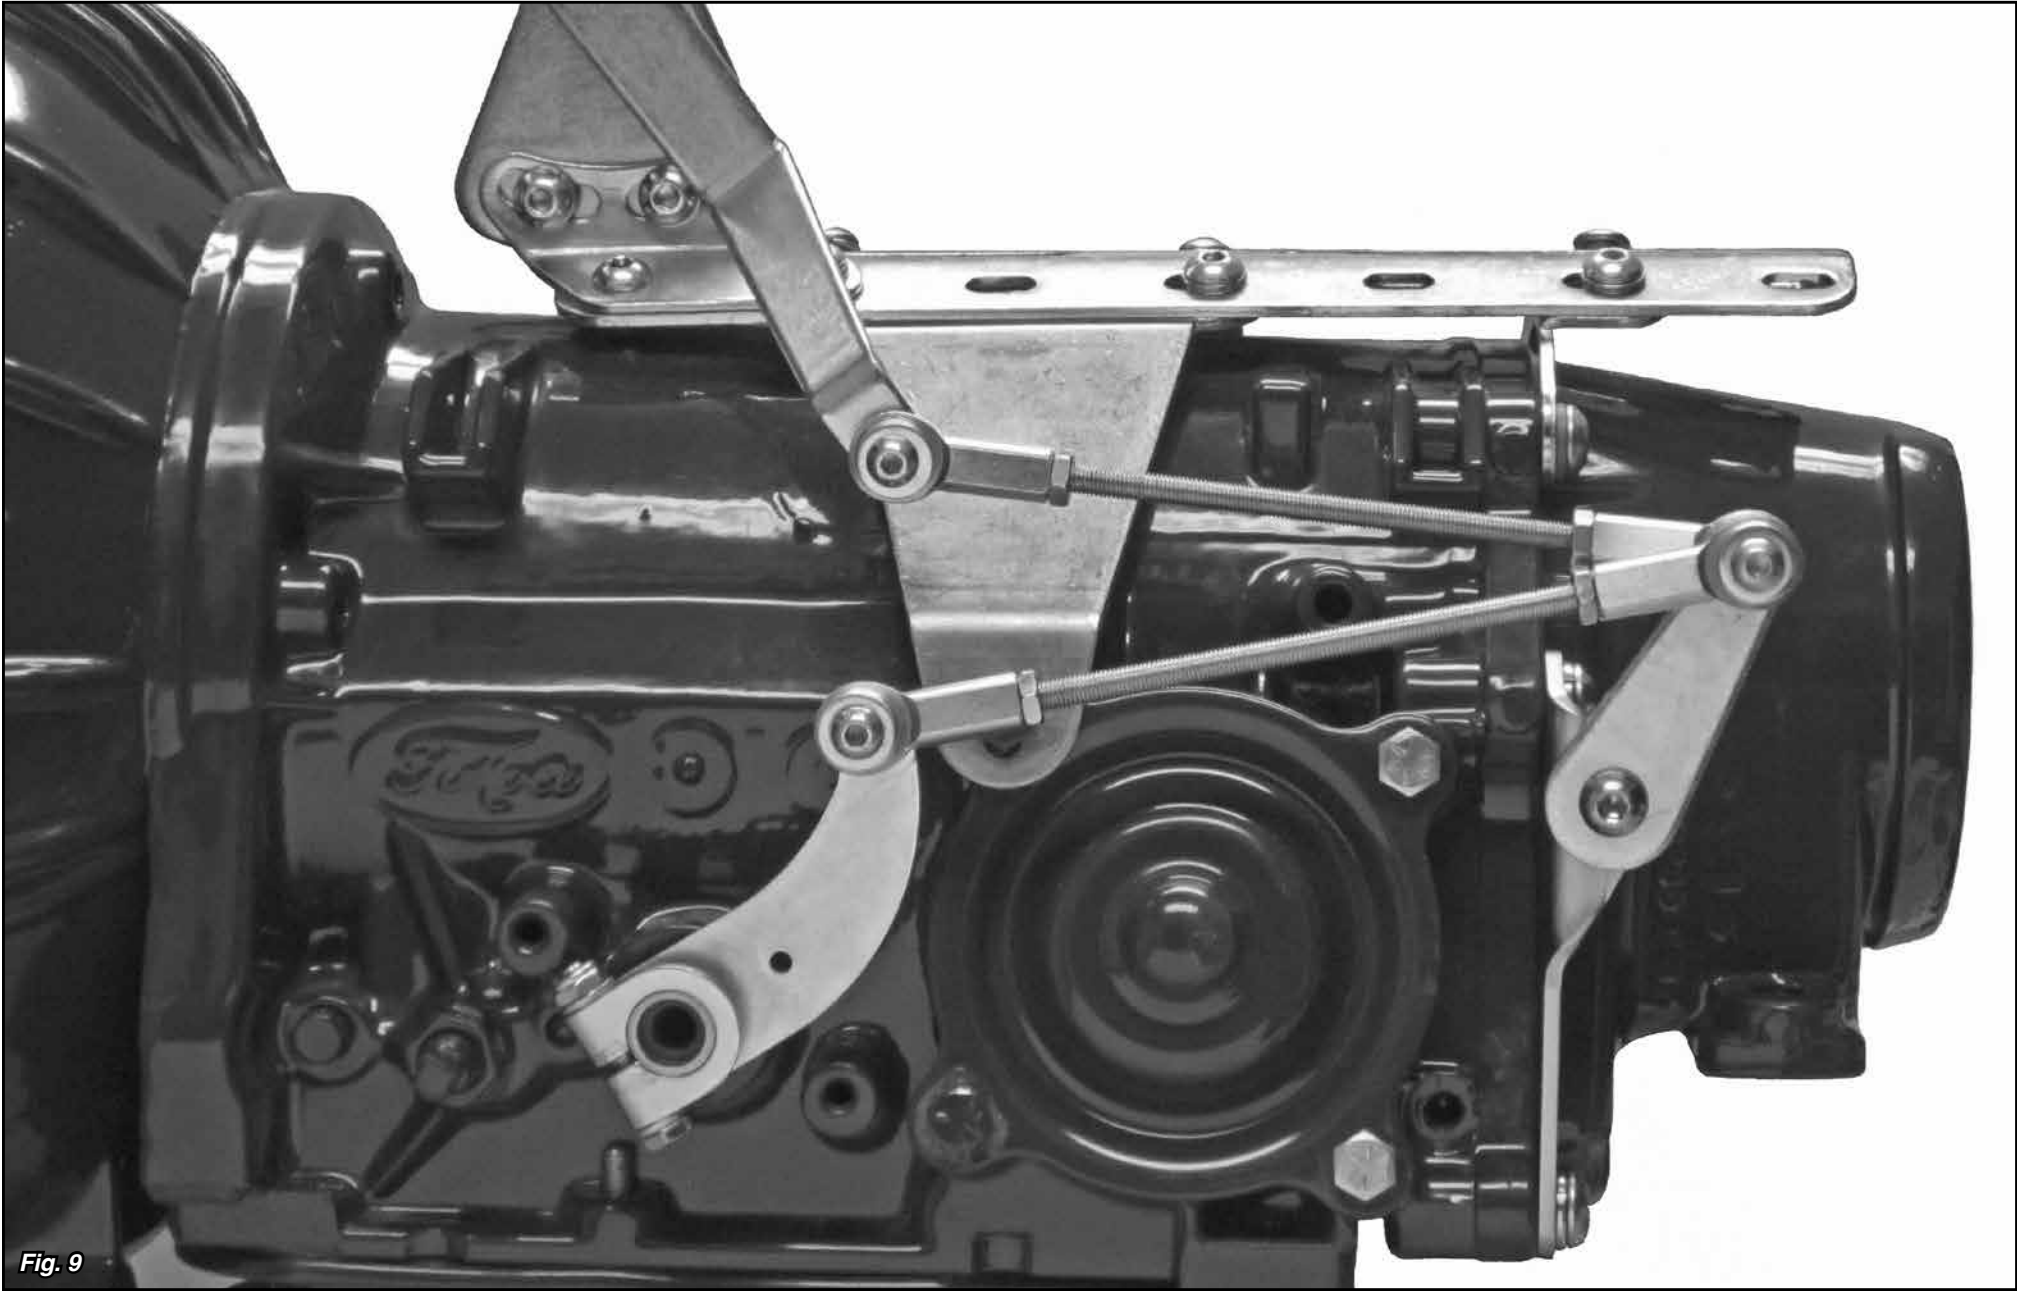

Fig. 9
**Step 10:** Install the opposite end of the upper rod assembly onto the 1/4"-28 x 1-1/2" button head bolt on the inside of the bell crank linkage arm (towards the transmission), adjusting the length of the upper rod assembly as needed. Install a flat washer and 1/4"-28 nylock nut onto the 1-1/2" button head bolt. **Fig. 8 and Fig. 9**
**Step 11:** With the shifter still in Park, check to make sure that there isn't any slack in the linkage, and that the linkage is not under tension. Make sure that the button in the shift knob moves up and down freely. Tighten the 1/4" jam nuts on the threaded rods. **Fig. 9** shows a completed installation.